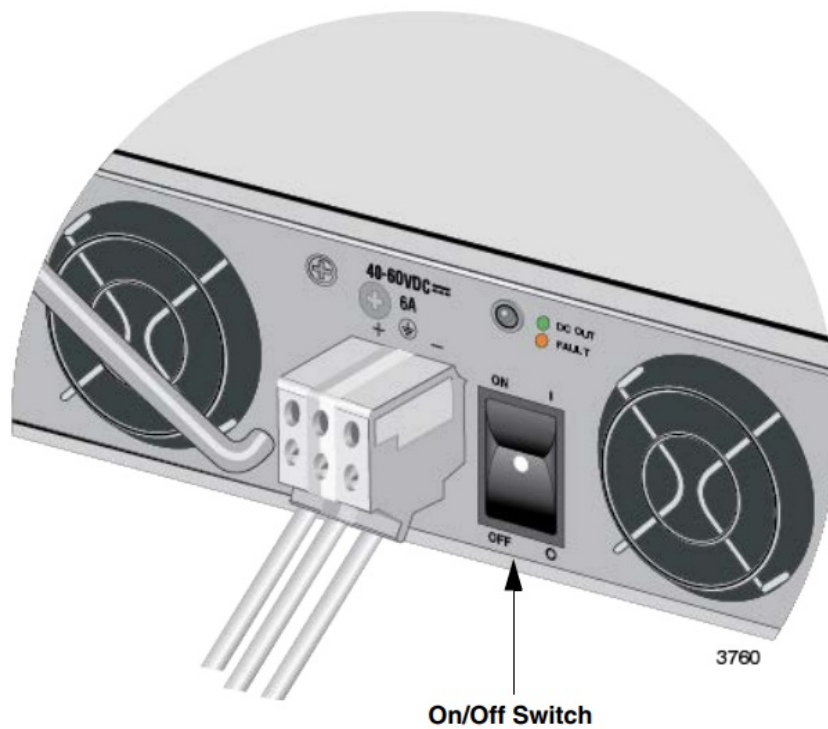

Figure 60. On/Off Switch on the AT-PWR250-80 DC Power Supply
2. Set the On/Off switch on the power supply to On. Refer to Figure 60.